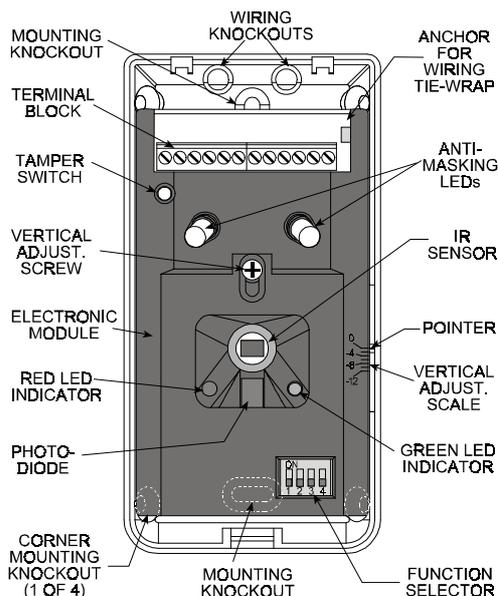

Figure 3. HUNTER as Viewed with Cover Removed
- Mount the base (with the wiring entry knockouts up) in the location and height selected for optimum coverage. For surface mounting, use the two knockouts at the back of the base. For corner mounting, use the knockouts on the angled sides (see Figure 3).
The HUNTER is equipped with a 4-position DIP switch function selector (see Fig. 3).